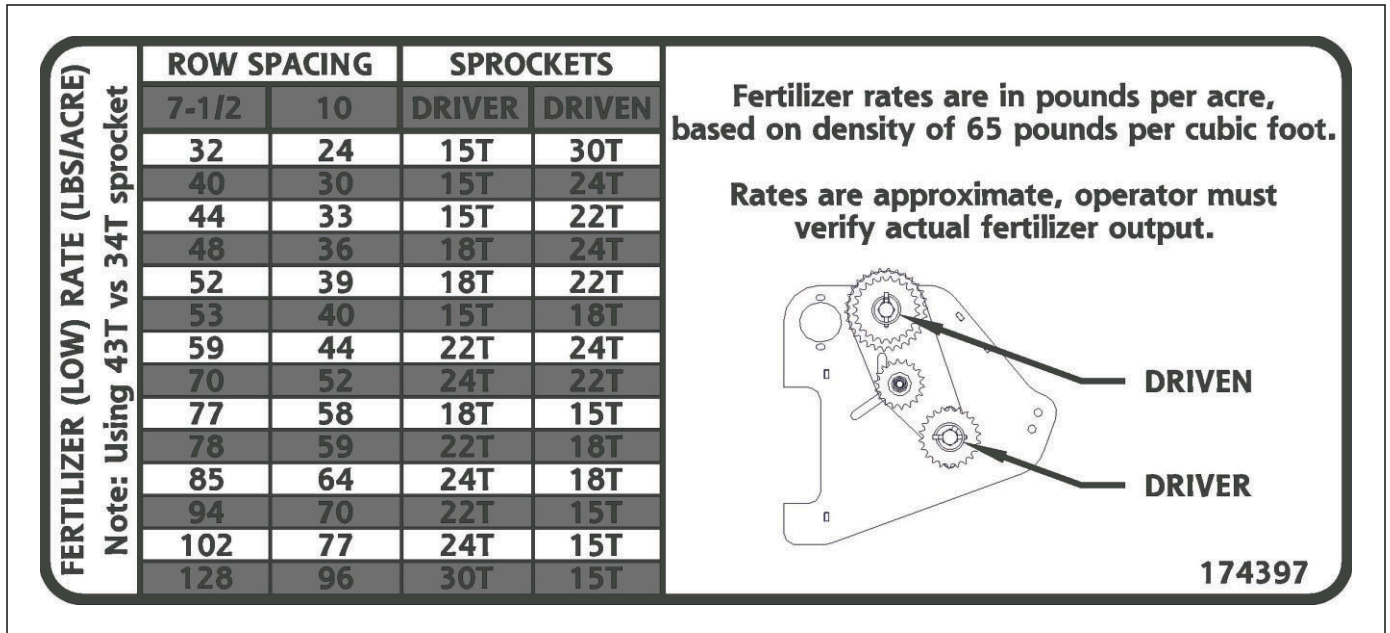

Figure 4-18: Fertilizer Box Chart
1. The dry fertilizer rate is adjusted by changing sprocket ratios for each section. *See Figure 4-18* for desired settings. For best results use clean dry fertilizer, free of clumps, or foreign material.